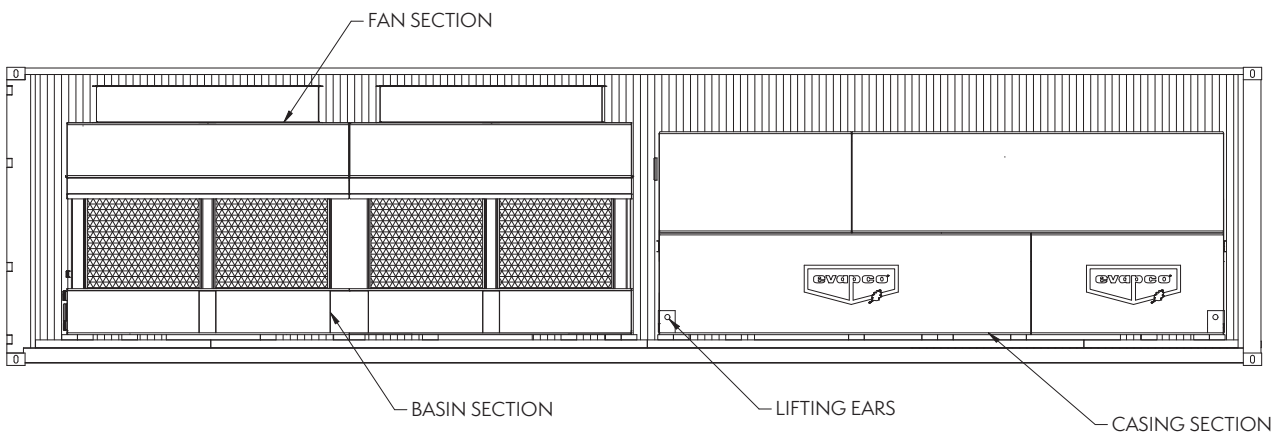

Figure 11 – 40' High Cube Container Shipment
* HC indicates "High Cube." High cube containers provide an additional foot of container height which allows for standard fan cylinders to ship mounted to the fan sections (See Figure 11 for an example of a high cube container).
Figure 11 below shows an example of a 7' x 18' unit shipping in a 40' high cube container. A high cube container is used so that the fan cylinders can ship mounted to the fan section. In such a case, the fan section is loosely bolted to the basin section.